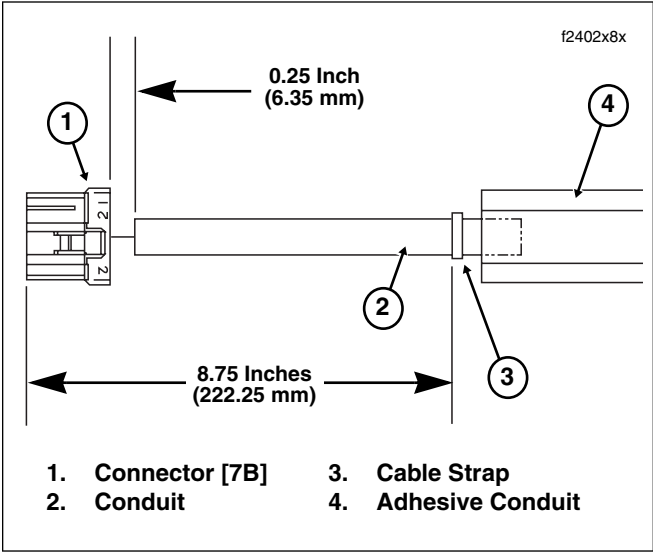

Figure 2-196. Install Cable Strap on Conduit
- b. Install cable strap 8.75 inches (222.25 mm) from mating end of connector as shown in Figure 2-196. Cut any excess cable strap material.